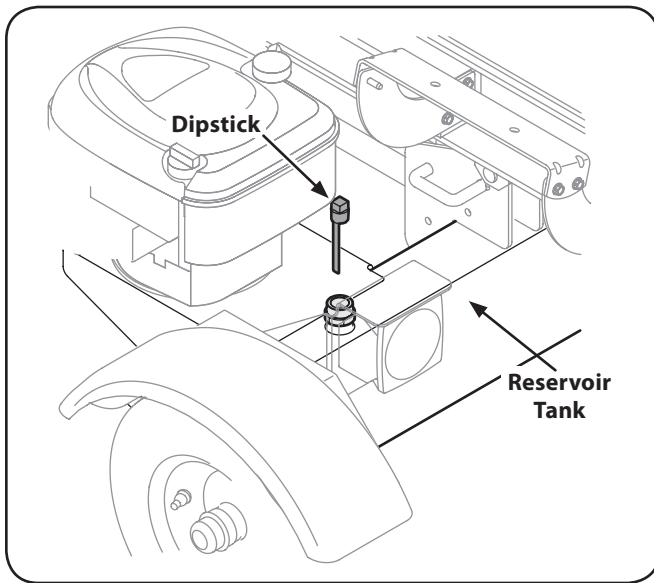

Figure 3-7
2. Remove the vented reservoir dipstick, which is located in front of the engine on top of the reservoir tank. See Fig. 3-7.
4. Check the fluid level using the dipstick. See Fig. 3-7. Do not overfill.